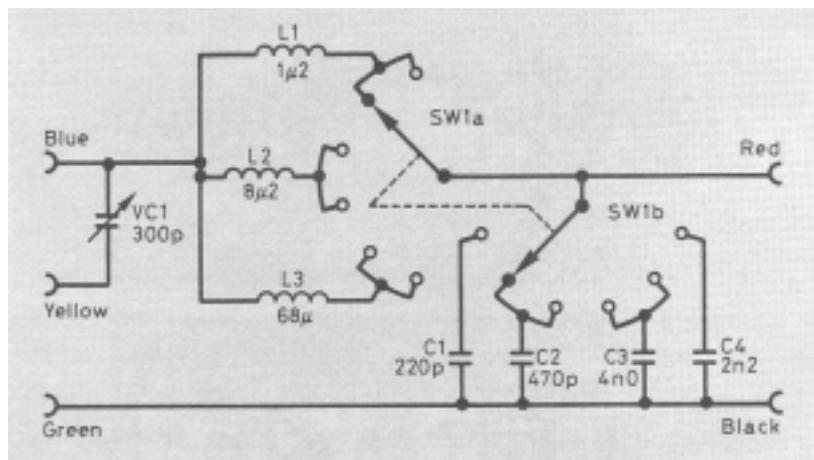
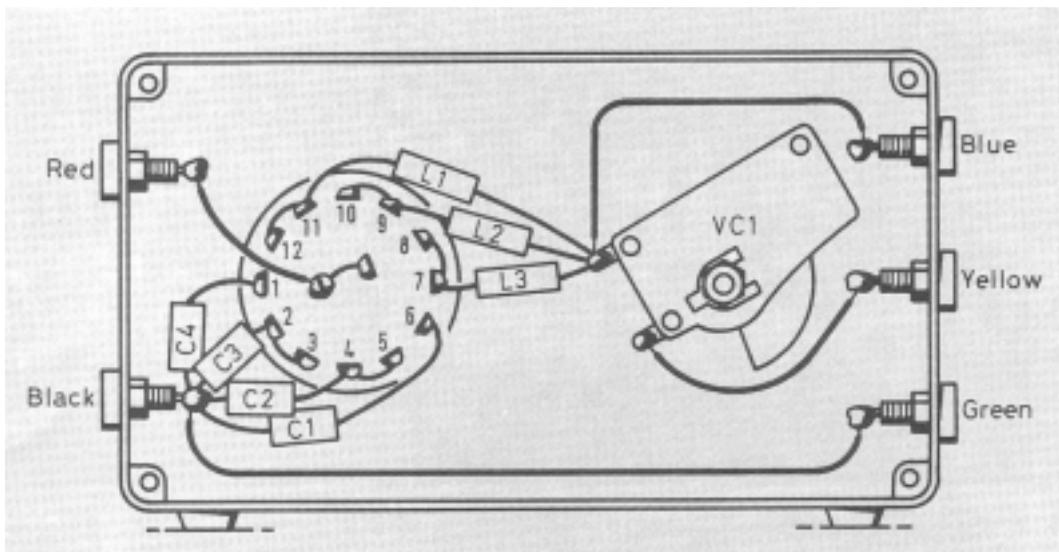

Figure 1 Circuit diagram of the Antenna Tuning Unit, showing the use of a 2-pole, 6-way rotary switch to select inductors (L) and capacitors (C)
Figure 2 The internal view of the case shows the main tuning capacitor, VC1. This is a solid dielectric type, which has adjustable brass plates
This design of ATU covers all amateur and broadcast bands from 10 m (28 MHz) to 80 m (3.5 MHz), and is very easy to build. The circuit is shown in **Figure 1**.
6. Wire up the inductors (coils). Figure 1 and the wiring diagram of Figure 2, will help with this. As you can see, each one side of each coil is connected to two switch connections, the other end going to VC1.
8. Solder a wire between the green and black sockets. The output from the ATU comes from the red socket, and this is connected to the two tags in the centre of the switch, as Figure. 2 shows clearly.